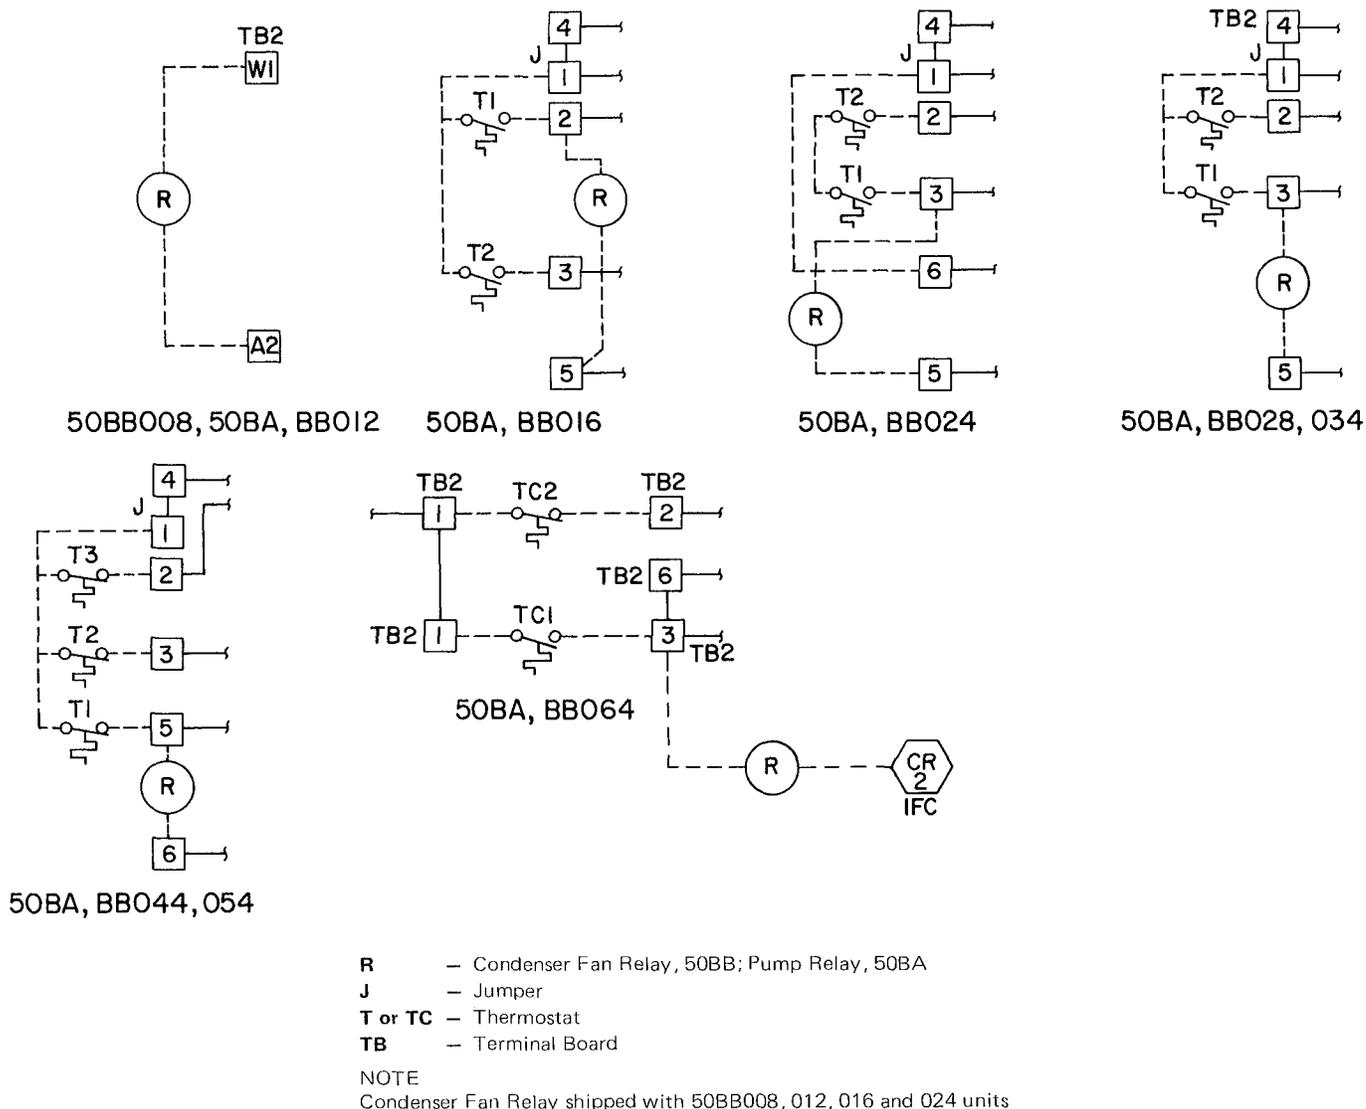

Fig. 24 — Field Control Power Connections
The 50BA, BB008 and 012 model units have thermostats factory installed with the sensing bulb in the return air. A field-supplied thermostat must be used on the 50BA, BB016 thru the 064 size units (see Fig. 24 for control wiring).
3. Loosen movable pulley flange setscrew (Fig. 24).